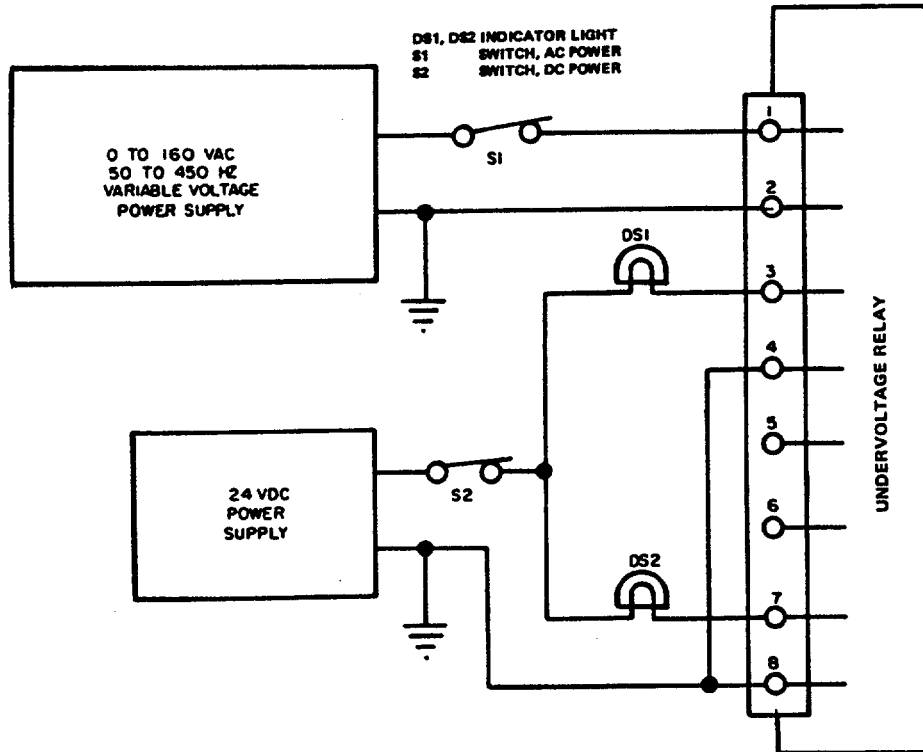

Figure 5-10. Undervoltage Relay K111, Test Setup.
- (1) Test. To test undervoltage relay K111, connect relay as shown in test setup figure 5-10.